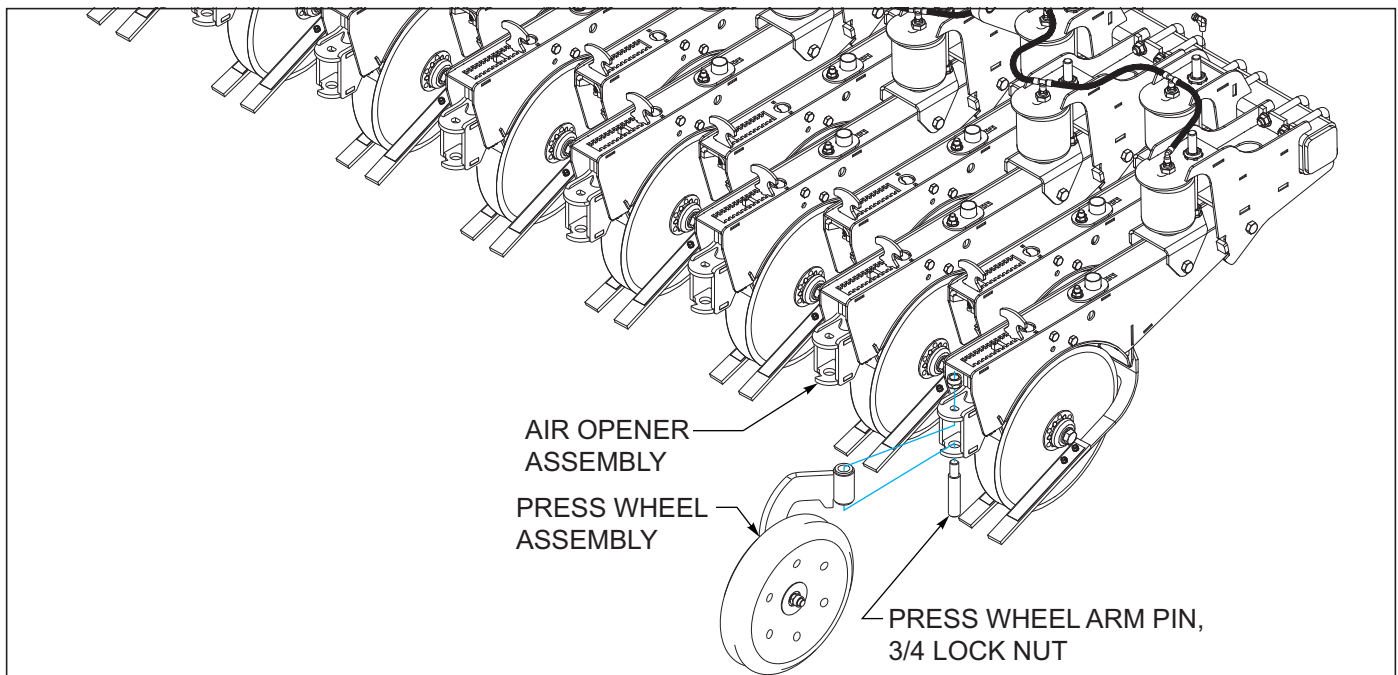

Figure 3-2: Air Opener Press Wheel Assembly
1. Attach each press wheel assembly to each air opener assembly on the Grain Drill using press wheel arm pin and 3/4 lock nut **See Figure 3-2.**